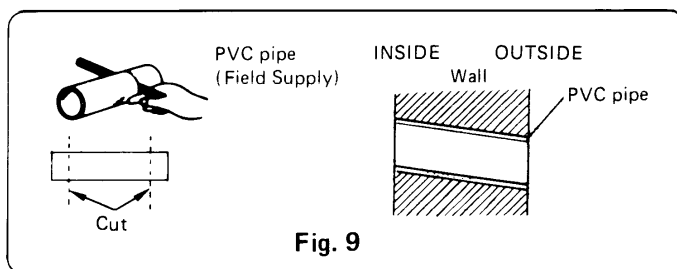

Fig. 9
e) Measure thickness of wall from inside edge to outside edge and cut PVC pipe at a slight angle. Insert PVC pipe in wall. Fig. 9